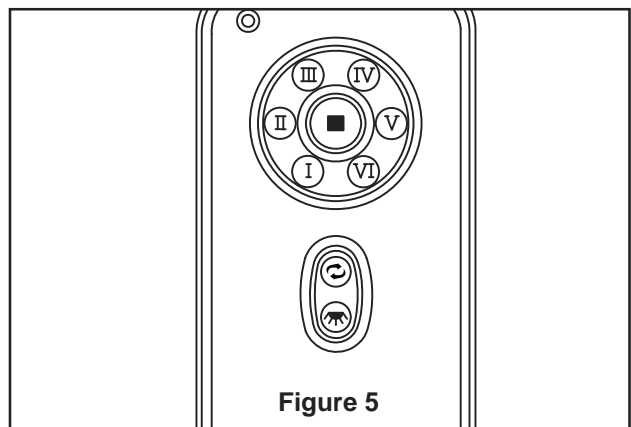

Figure 5
5. Attach the inner-switch cup to the support flange using the remaining three screws and fully tighten. (Figure 5)
- ⚡: Controls light-Infinite light levels are available by holding the light on/off button (Figure 5).